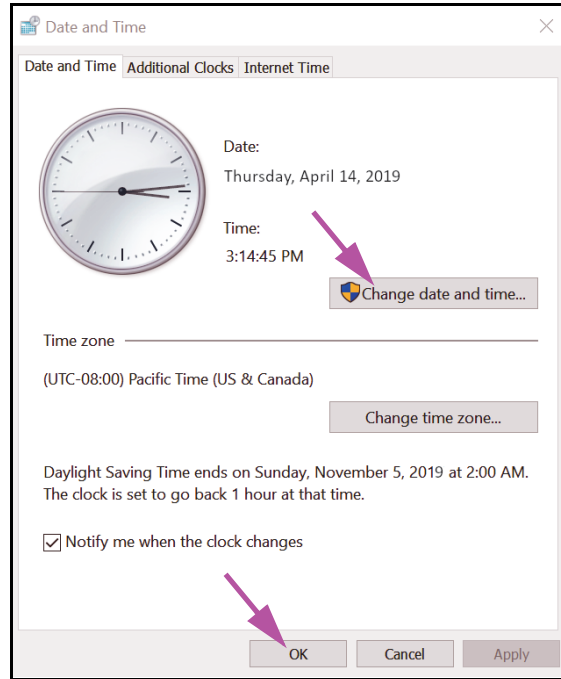

Figure 2-12. Date and Time Properties Dialog Box
1. Click **Control Panel > Date and Time**. The Date and Time dialog box appears. See Figure 2-12.
4. Click **OK** to return to the Date and Time dialog box. See Figure 2-12.